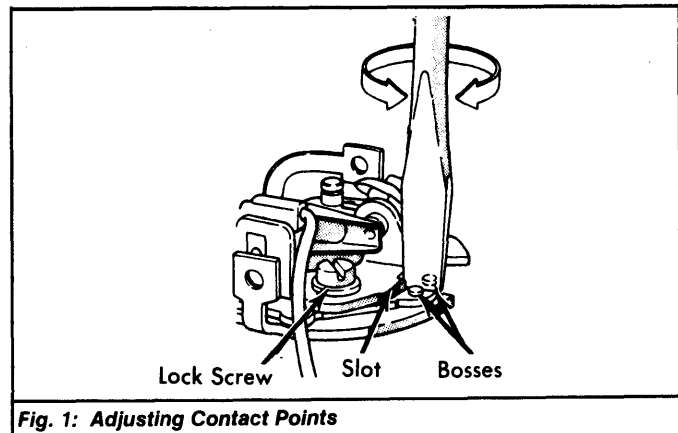

Fig. 1: Adjusting Contact Points
2) Tighten lock screw. See Fig. 1. If necessary, align points by bending stationary contact support only. Check cam angle with a dwell meter. Compare indicated reading with specification and correct if necessary.